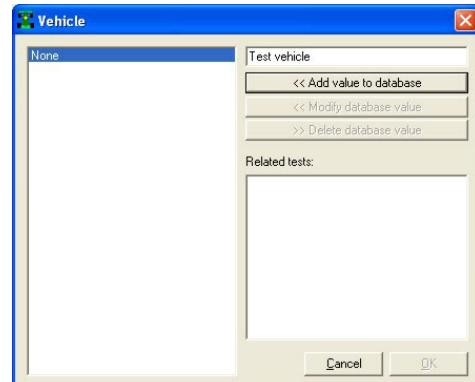

Fig. 3.6– Add/Modify test attributes window
- To set the Vehicle name, please push the Add/Modify button which corresponds to the Vehicle row. It will appear the window shown in Figure 3.6.
The test will be automatically removed from the database but **will not be deleted from your PC's hard disk**, as reminded in the confirmation window, shown in Figure 3.6, which appears on your PC's monitor.